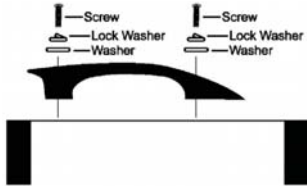

Figure 3. Handle Installation
3. Insert the screws with the washers through the holes on the welder handle and into the top of the welder and tighten. (see Figure 3)